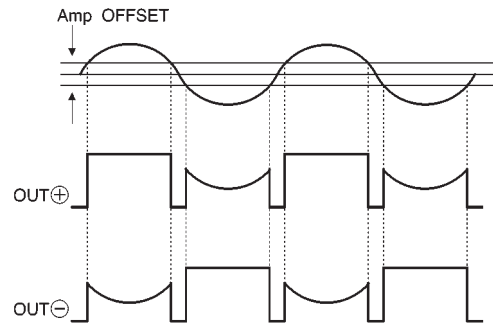

Fig.5
(3) Output waveforms are shown in Fig. 5. Because of the amplifier offset, the output is left OPEN when the output signal switches from positive to negative. The output waveform is determined by the external circuit because the IC impedance increases during this transition period. Since inductive loads are usually provided, a capacitor should be connected to suppress the backlash voltage.